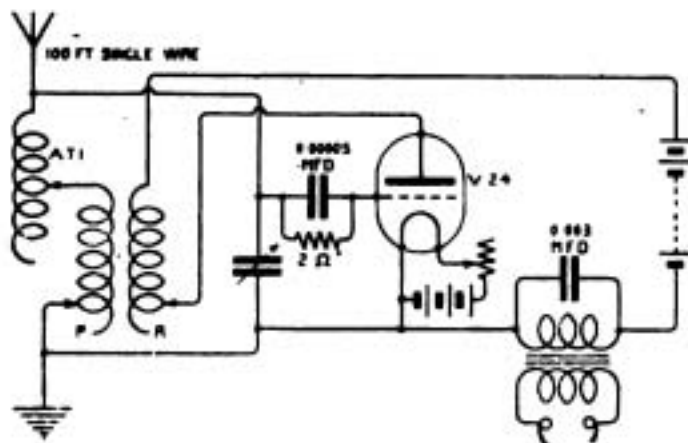

Fig. 3.
(1) Altered as in our sketch, (Fig. 3) the receiver should be quite O.K. for C.W., spark and telephony.